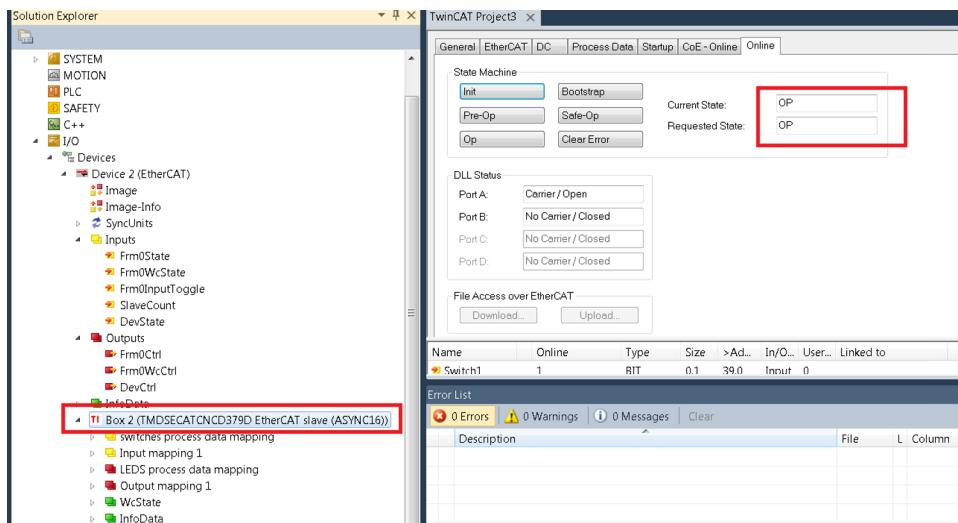

Figure 28. Rescan Network
5. Rescan the network (see Figure 28).